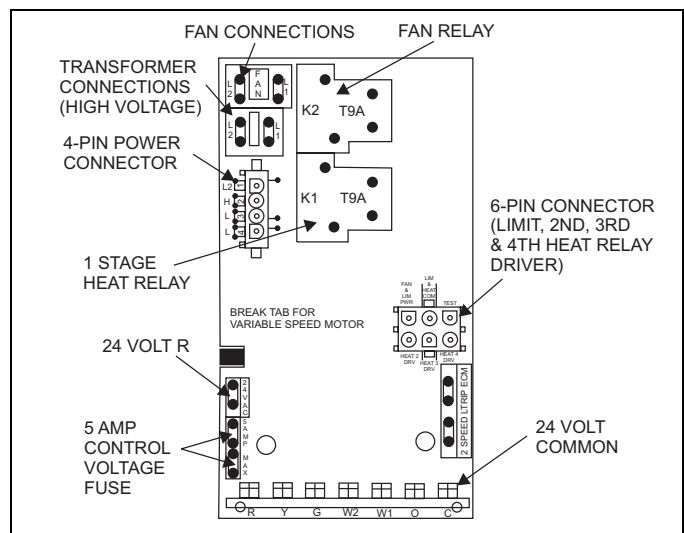

FIGURE 8: Control Board
The low voltage transformer and fan / heater control, are standard on all models. See Figure 8. The air handlers are shipped pre-wired to operate as cooling only applications. To complete the installation for cooling only, install the 6-pin jumper plug to the control board to bypass the heater limit controls. This jumper plug is secured to the duct cover near the 4-pin power plug harness. Failure to install the plug will cause the blower to run continuously. (See Figure 8).
1. Remove the 4-pin power plug from the control board (See Figure 8).
2. Remove the four (4) screws from the duct cover and remove the duct cover from the air handler.